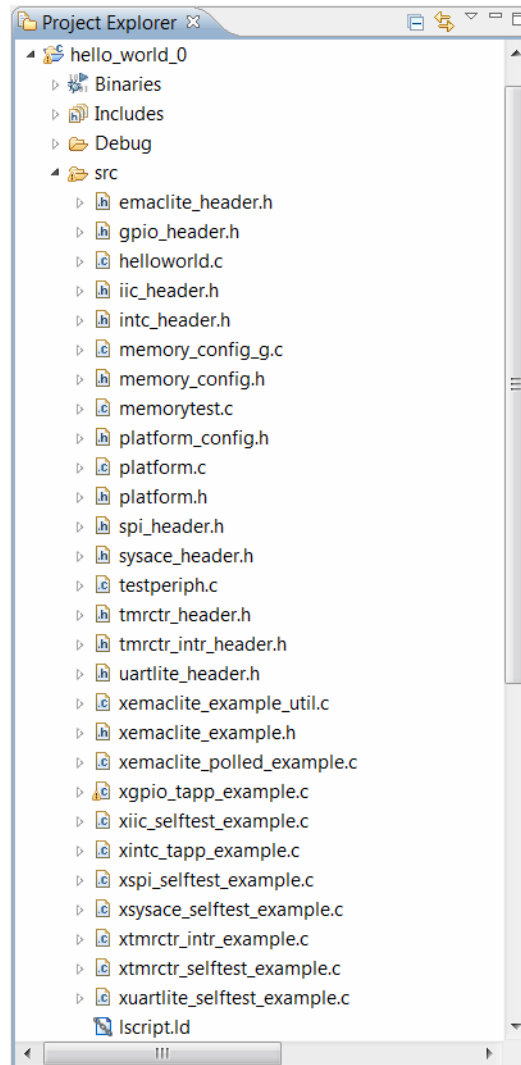

Figure 5-4: Source Files in hello_world_0
- Drag and drop source files from `memory_tests_0` and `peripheral_tests_0` into the `src` subfolder of the `hello_world_0` folder. Figure 5-4 shows the source files that the directory should contain.